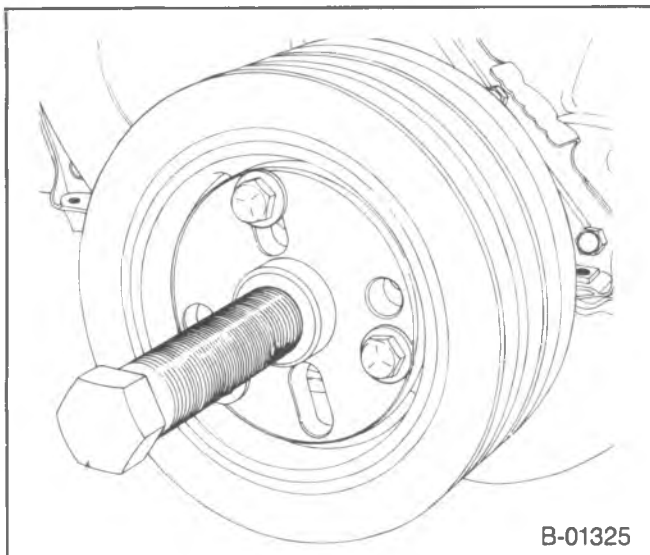

Figure 16—Removing The Torsional Damper
**Remove or Disconnect (Figure 16)**
5. Torsional damper. Use J-23523-E (figure 16).